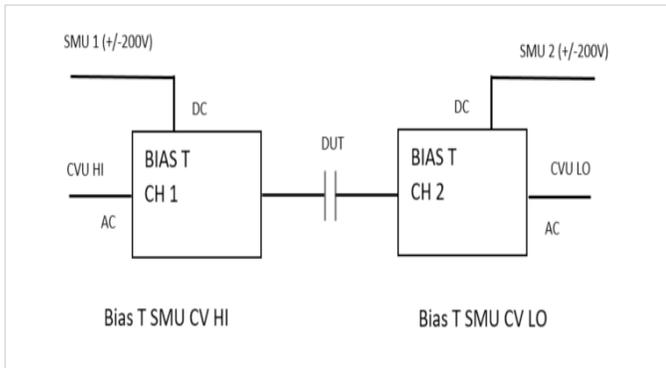
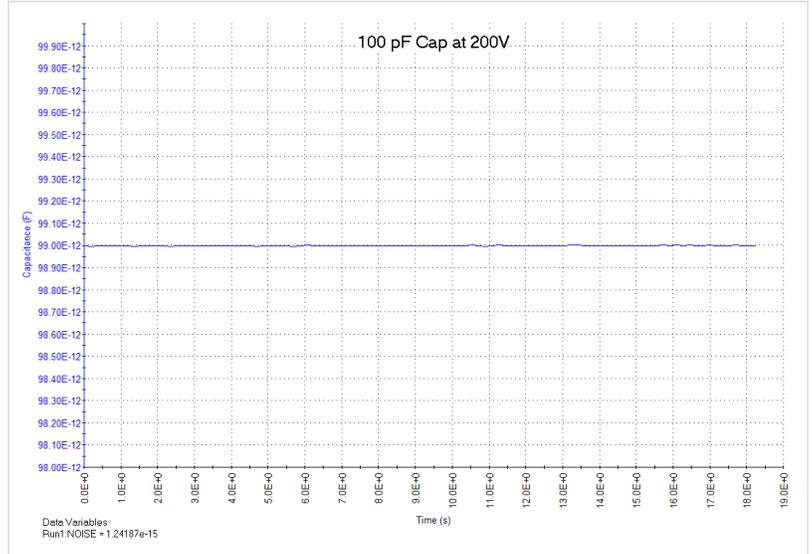

Figure 5: BiasT SMU CV HI or LO Channel Configuration
Figure 13: Capacitance vs. Time Measurements
of the 4200A-CVIV bias tee circuit. This mode is ideal for performing C-V measurements where a DC bias current of up to 1 A is required, such as when making C-V measurements on a semiconductor device in the on-state. On a two-terminal device, connect both CVU HI or LO and SMU to each output channel as shown in **Figure 5**.
- HVCV- Zener Test Module:** Figure 11 shows the user test module (UTM) GUI. Using the Clarius Software to Control High Voltage C-V Measurements. *hivcvulib* user library contains two modules, *SweepV* and *CvsT*, for controlling the high voltage C-V measurements. These modules can be used with either one or two bias tee configurations. Using one bias tee, the *SweepV* module allows the user to sweep a DC voltage across the DUT using the 4200-SMU and measure the capacitance using the 4210-CVU. If two bias tees are used with the *SweepV* module, then one SMU is used to sweep the DC voltage and the other SMU is used to apply an offset DC bias (as shown in Figure 5). The *CvsT* module provides capacitance measurements as a function of
Two tests exist in this project for testing capacitors: one applies a constant 200 V bias and the other sweeps the voltage from -200 V to 200 V. To perform these tests, the capacitor is connected to the test system using the bias tee modes as shown in **Figure 5**. High voltage capacitance vs. time measurements can be made using the *200vbias* test, which was created using the *CvsT* module. This module applies 200 V to a 100 pF capacitor, measures the capacitance as a function of time, and plots the data in the graph. The results are shown in **Figure 13**. This module can be used to determine how much settling time to use during an actual C-V sweep.